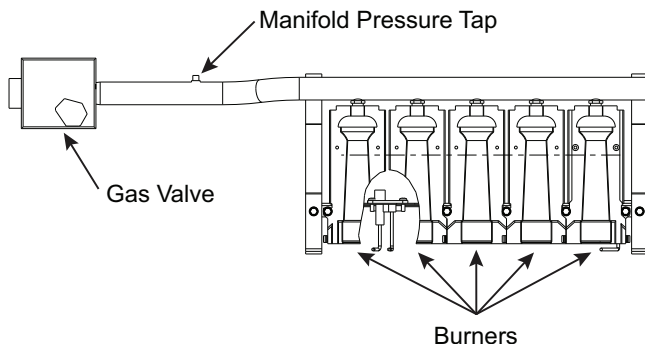

Fig. 59 — Burner Tray Details
10. Slide the burner tray out of the unit (see Fig. 59).
2. Remove manifold pressure tap plug from manifold and connect pressure gauge or manometer. (See Fig. 59.)
11. Turn off unit, remove pressure manometer and replace the manifold pressure tap plug. (See Fig. 59.)